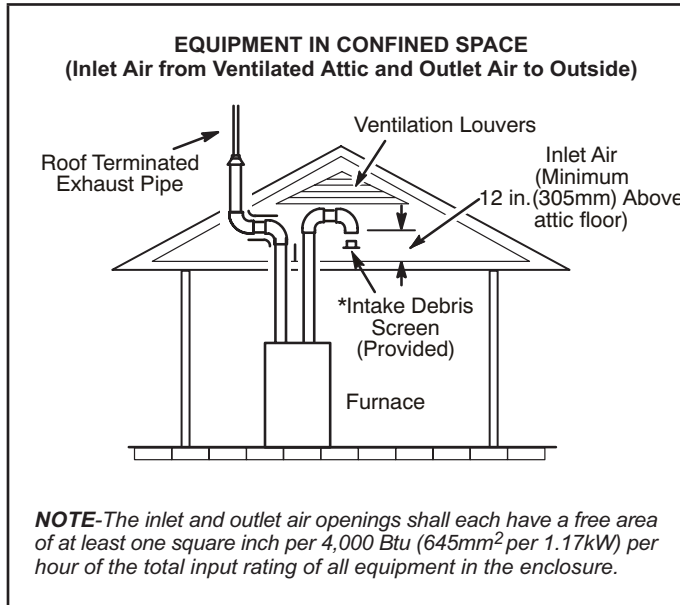
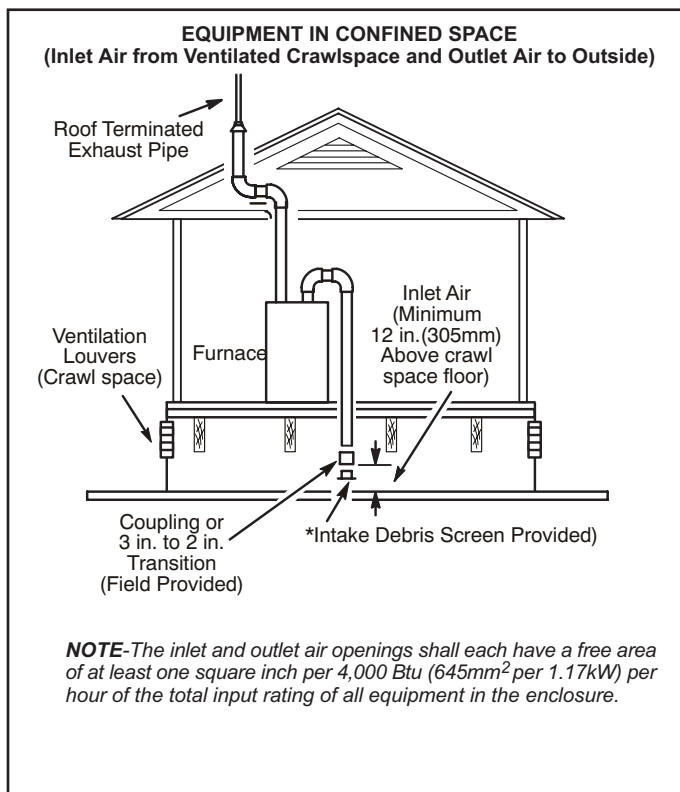

Figure 28
Figure 29
- 2 - If intake air is drawn from a ventilated attic (Figure 28) or ventilated crawlspace (Figure 29) the exhaust vent length must not exceed those listed in table 6. If 3" diameter pipe is used, reduce to 2" diameter pipe at the termination point to accommodate the debris screen.